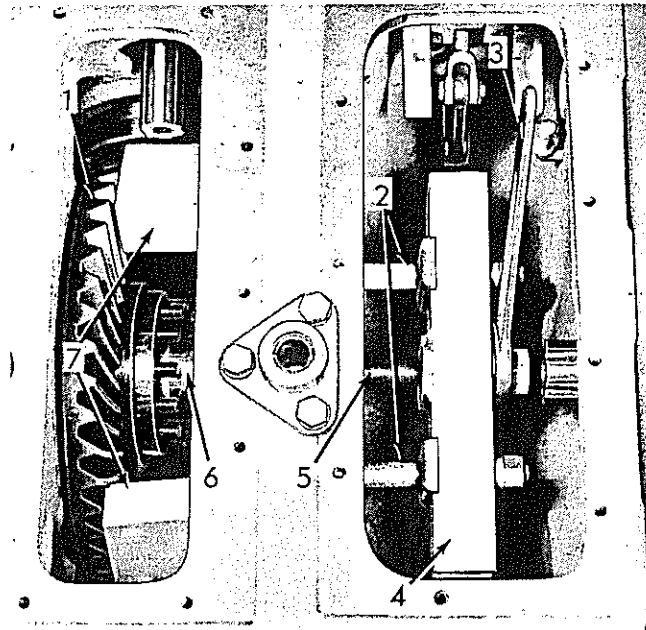

Fig. 14 Removing Bevel Gear Shaft (T-17887)
4. Refer to Fig. 14, install wooden blocks between bevel gear teeth and compartment wall to hold gear stationary. Install puller tools similar to those shown; pull bevel gear shaft from bevel gear.